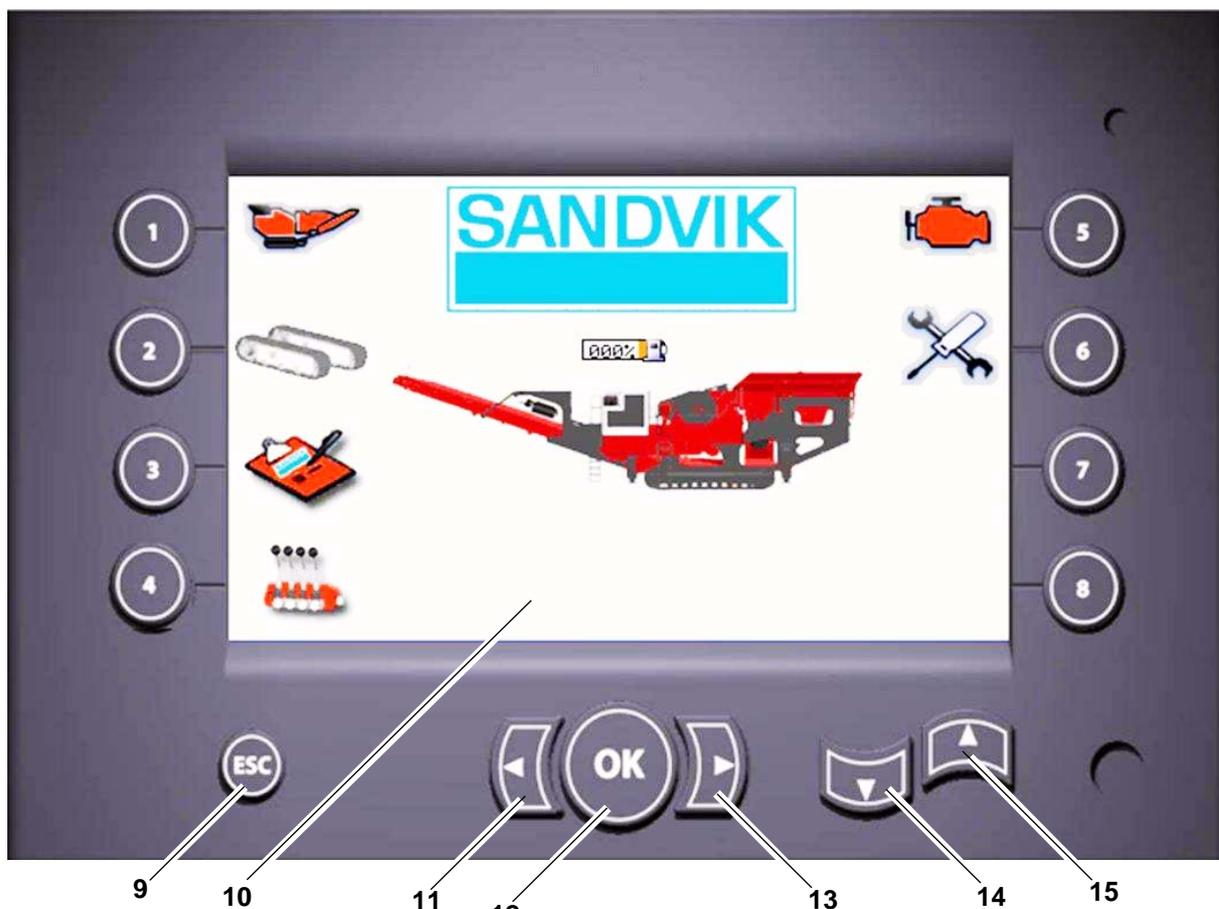

Figure 4-5: Display Panel - Main Menu
1. Refer to **Figure 4-5: Display Panel - Main Menu**, to change the time and date press and hold 'ESC' button (9) for 3 seconds to access the 'Information Menu'.
2. Time and date fields appear, press and hold button (4) for 3 seconds.
3. Press right arrow button (13) 'Years' is highlighted and starts to flash.
4. Press 'Up' or 'Down' arrow buttons (14), (15) to change 'Year'.
5. Press right arrow button (13) 'Months' is highlighted and starts to flash.
6. Press 'Up' or 'Down' arrow buttons (14), (15) to change 'Month'.
7. Press right arrow button (13) 'Days' is highlighted and starts to flash.
8. Press 'Up' or 'Down' arrow buttons (14), (15) to change 'Day'.
9. Press right arrow button (13) 'Hours' is highlighted and starts to flash.
10. Press 'Up' or 'Down' arrow buttons (14), (15) to change 'Hour'.
11. Press right arrow button (13) 'Minutes' is highlighted and starts to flash.
1. Refer to **Figure 4-5: Display Panel - Main Menu**, to change the time and date press and hold 'ESC' button (9) for 10 to 15 seconds to access the 'Information Menu'.
5. Turn ignition key to 'ON' position, display panel 'Main Menu' is displayed, Refer to ***Figure 4-5: Display Panel - Main Menu, page 67.***